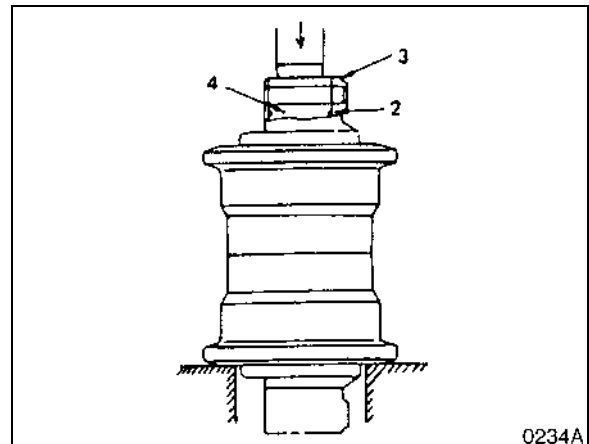

Figure 32
3. Separate the collar (3, Figure 32) from the axle, using a press.